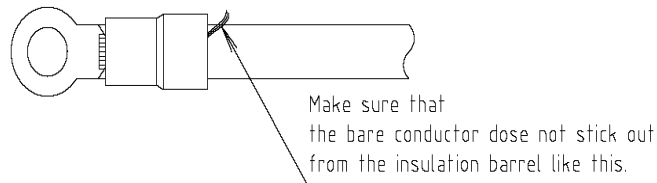

FIGURE 2-23
c. Refer to **Figure 2-23**. Insert the wire into the crimping terminal PS5.5-5.